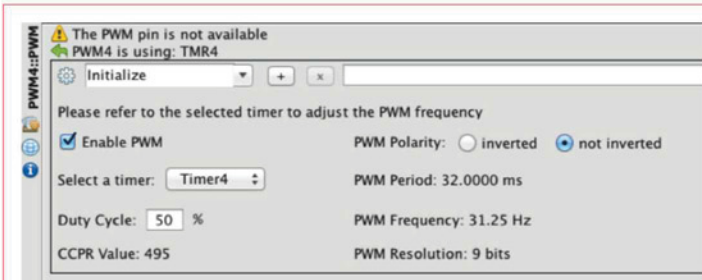
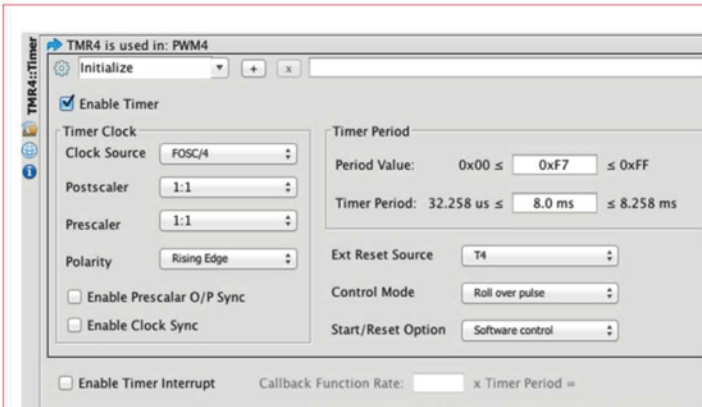

Figure 6: PWM4 configuration window
Figure 7: TMR4 configuration window
Click on PWM4 now (see Figure 6) and change the time base to Timer 4, so we can select a different period. As soon as you do that, you will see TMR4 appear on the list of Project Resources. Click on it as well, but now change the period value to 0xf7 (247) as shown in Figure 7.